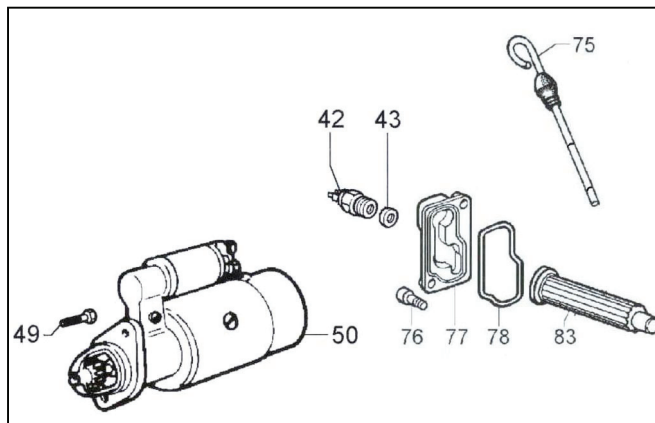

Figure 27
8.7.2 Oil Filter Cartridge (figure 27, #83)
1. Remove the two cartridge cover cap screws (figure 27, #76).
2. Remove the cartridge cover (figure 27, #77) and gasket (figure 27, #78) from the side of the engine.
3. Pull the oil filter cartridge (figure 27, #83) out of the engine and replace.